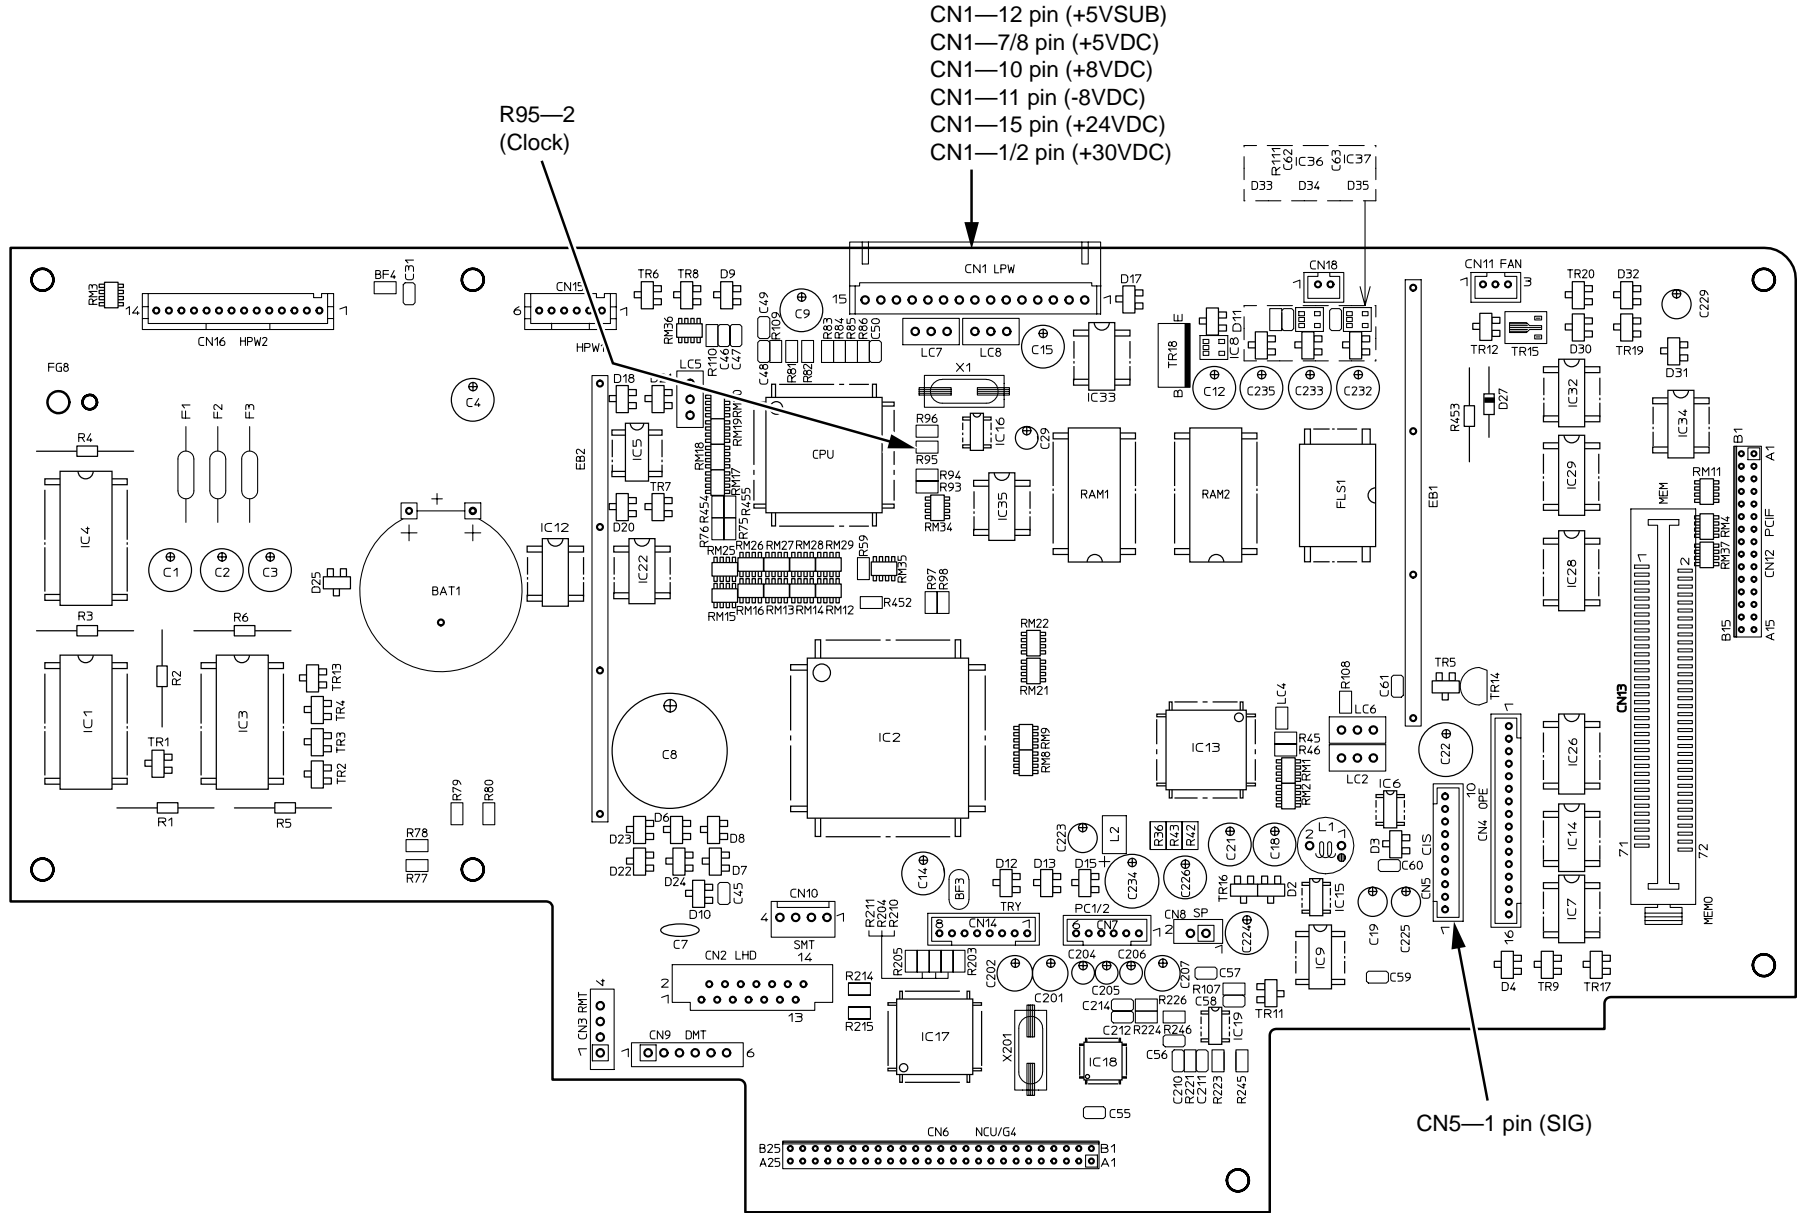

Figure 5.1 Measurement Points on V60 Board
- 4) Connect the frequency counter (for clock frequency), digital voltmeter (for power voltage) and Oscilloscope (for SIG signal). See Figure 5.1.